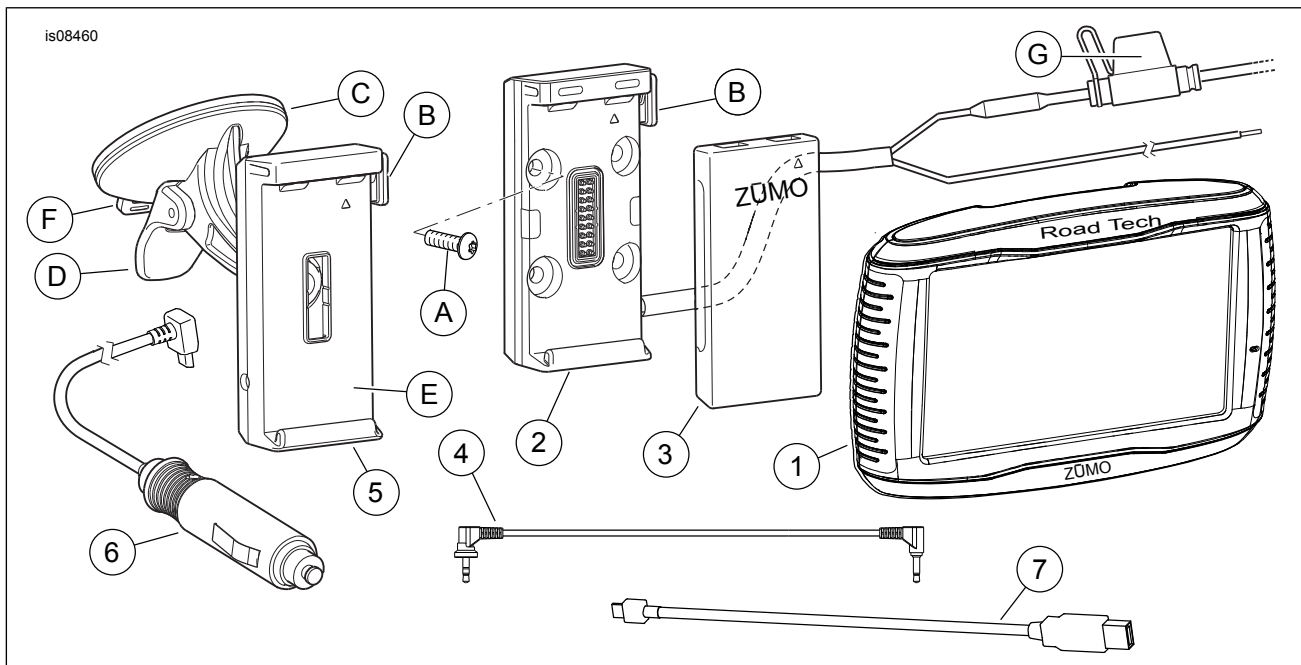

Figure 1. Service Parts, Road Tech Zumo 590 GPS Kit
See Figure 1 and Table 1.
See Figure 1. The cradle mount (2) needed for installation to the motorcycle is found in **THIS** kit.
1. See Figure 1. Thoroughly clean the inside surface of the windshield. Thoroughly clean the suction cup (C). Allow both to air dry before installing the suction mount.
- See Figure 1. Obtain the Road Tech Zumo unit (1) from the kit. Install the battery if necessary (see **Motorcycle Installation**).